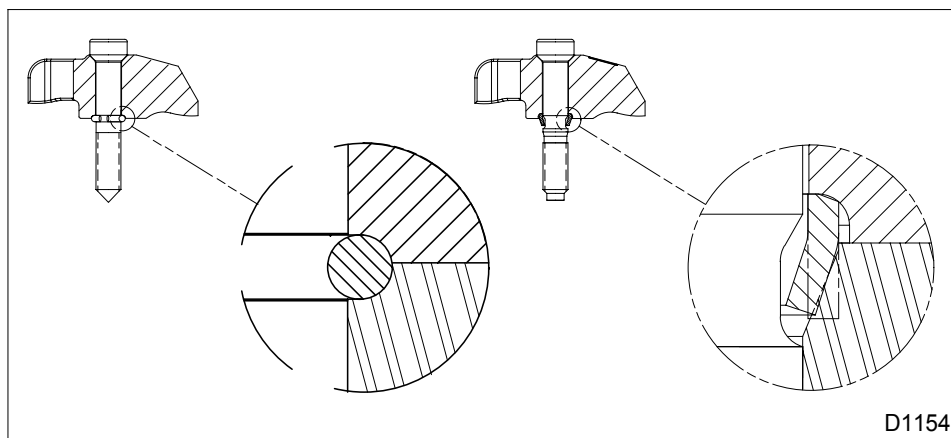

Figure 3 Injector Clamp Designs - Early "C"- Type (left), Current (right)
- Injector hold down clamp bolt retainers –"C" type only, see Figure 3 below.